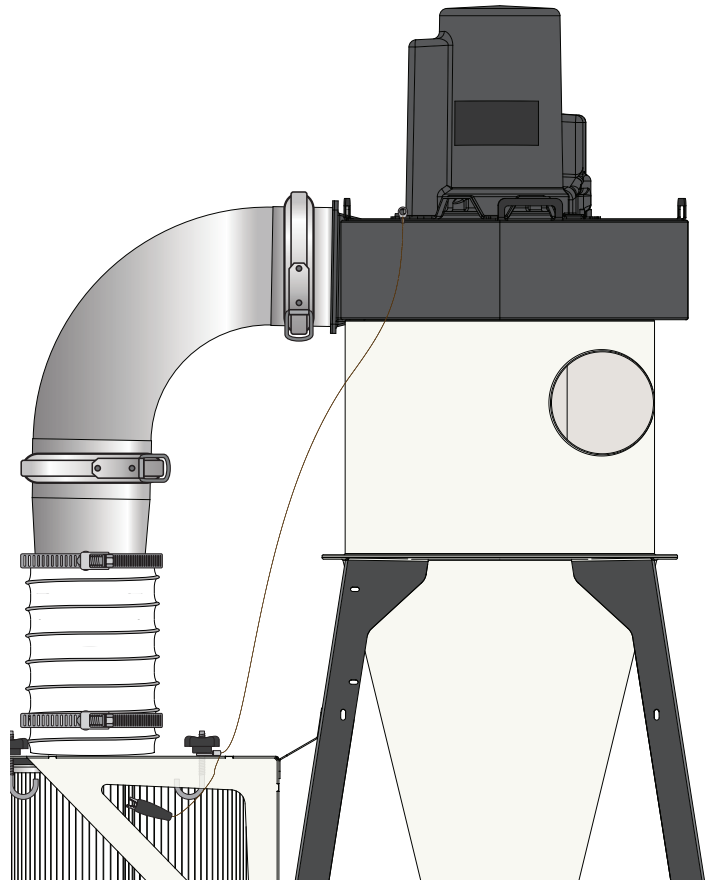

FIG. 16
To ground the filter, attach the ring terminal on the braided ground wire from the Motor Assembly (A) to a J-bolt (O4) on the Dual Filter Plate (N) under the Thumb Nut (O2), then attach the alligator clip to the filter's cage [FIG. 16].